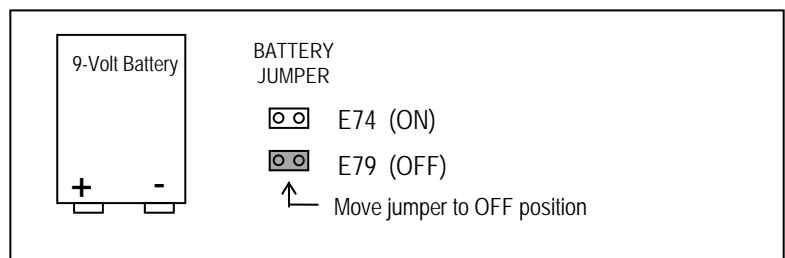

Figure 2. Printer Control Board Battery Jumpers
7. Refer to Figure 2, and disconnect the 9-volt battery (located at the lower left corner of the control board) by moving the jumper currently on E74 (ON) to E79 (OFF).
Refer to Figure 2, and reconnect the 9-volt battery (located at the lower left corner of the control board) by moving the jumper currently on E79 (OFF) to E74 (ON).